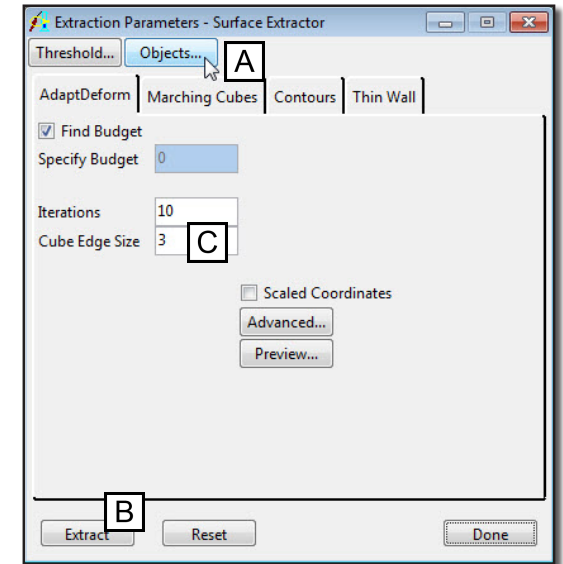

Figure 1
5. Click **Objects [A]** at the top of the Extraction Parameters window (figure 1). In the window returned, leave the **Brain** set to **On** and set all other objects to Off. Click **Done** to dismiss the window.